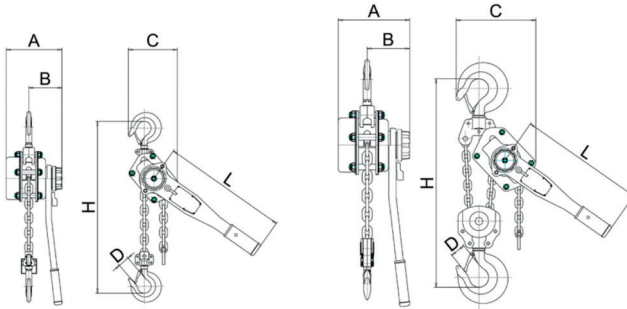

Fig. 1a
-  The lifting chain is equipped with a low limit stop (Fig. 1a-1b). It is prohibited to fasten a load to the low load limit stop.
The condition of the hooks must be checked regularly. The maximum acceptable deformation on the opening of the hook ("D", Fig. 1a – Fig.1b) is 3 mm.